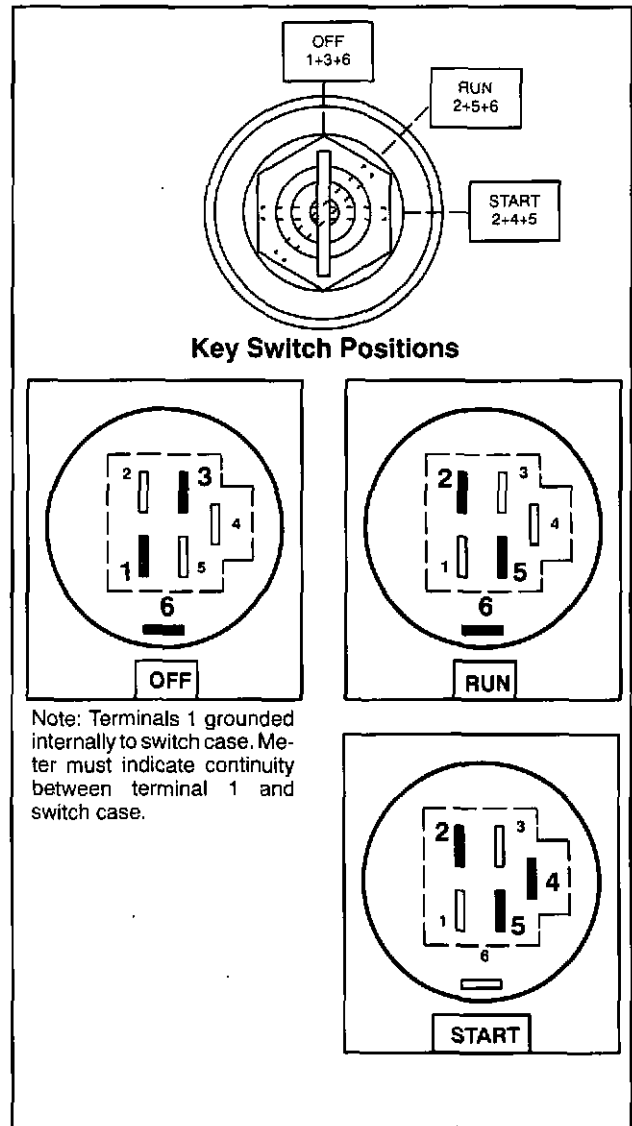

Fig. 21 – Testing Keyswitch
4. Meter must indicate continuity between terminals with keyswitch in position shown. See number sequence of terminals shown in Fig. 21.